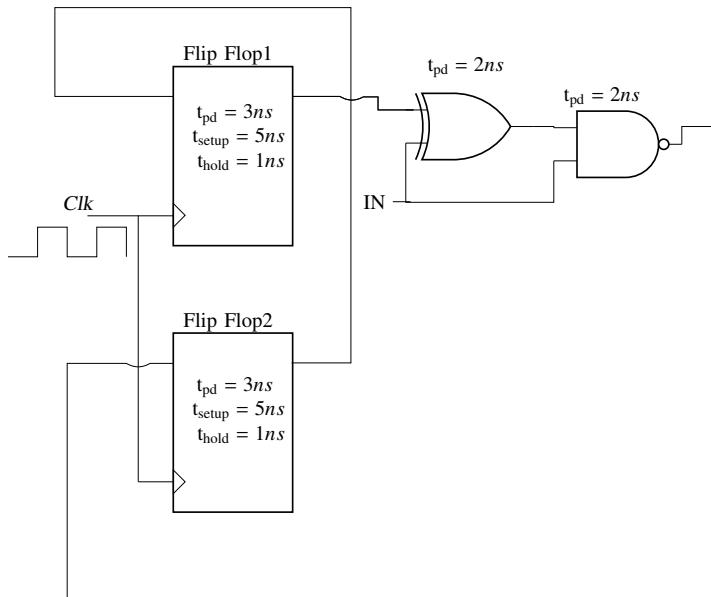

Fig. 5.22
22. For the components in the sequential circuit shown in Fig. 5.22 below,  $t_{pd}$  is the propagation delay,  $t_{\text{setup}}$  is the setup time, and  $t_{\text{hold}}$  is the hold time. The maximum clock frequency (rounded off to the nearest integer) at which the given circuit can operate reliably is \_\_\_\_ MHZ. (GATE EC2020 – 50)